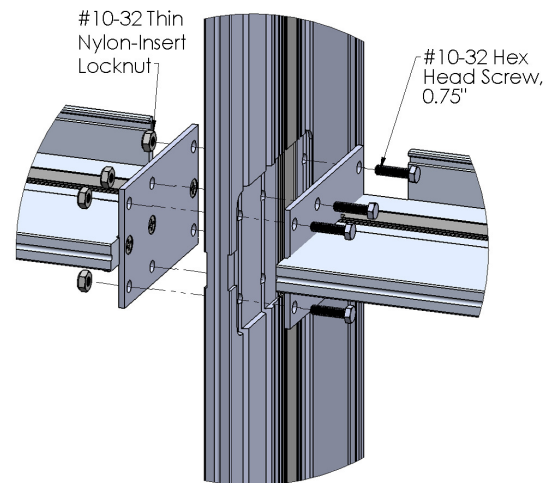

Figure 8:
3. Install each full length (vertical or horizontal) TDL bar, use #10 X 1" PHP into pre-drilled holes (Figure 8).
5. To secure the partial length TDL to the full length TDL use #10-32 Hex Head Screw, 0.75" through the intersecting plate and #10-32 Thin Nylon Insert Locknut (Figure 8).